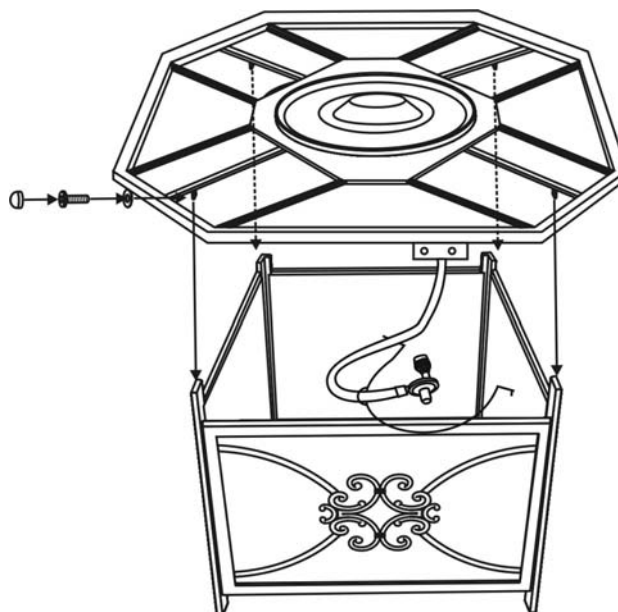

Figure 6
6. With the help of another person, carefully place the table top onto the table base. After making any necessary adjustments to the alignment of the table top and the assembled base, use four 1/4"x15 mm bolts and washers as shown in Figure 6. Guide the bolts through the holes in the side panels, into the pre-drilled holes in the table top. **Do not tighten completely.**